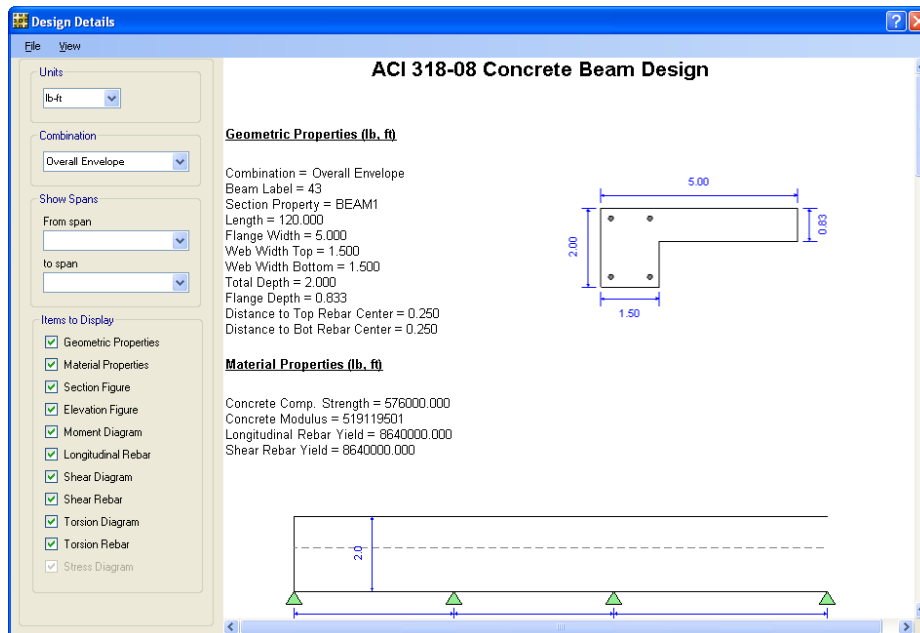

Figure 43 Design Details form
- O. **Right** click on a beam to display the Design Details form shown in Figure 43.